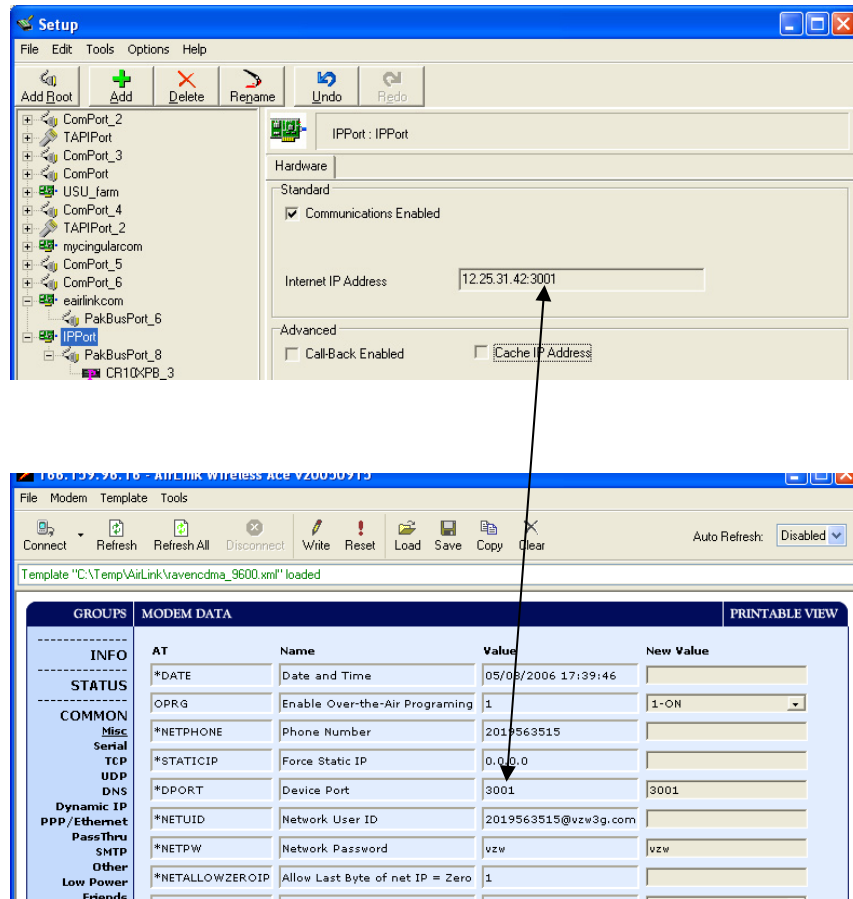

FIGURE 7-1. Device Port configuration
- a. Make sure the port number at the end of the IP address matches the port number of the RavenXTG (e.g., 3001, see FIGURE 7-1).